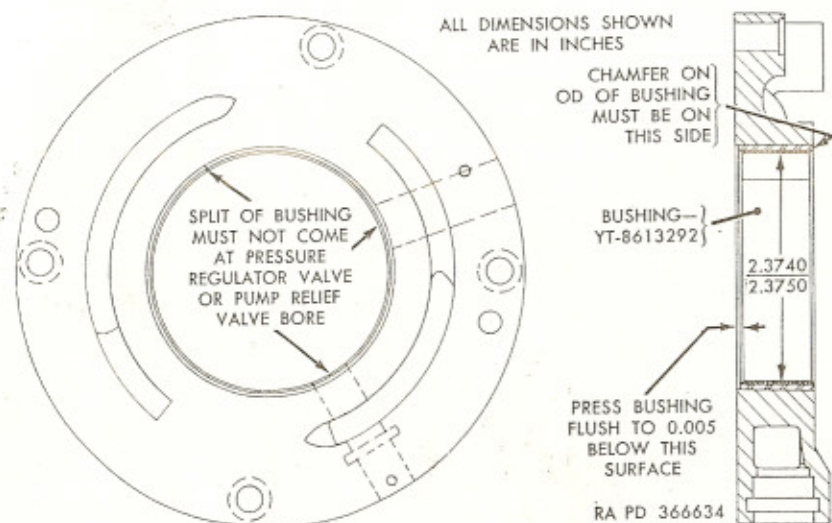

Figure 91. Sectional view of front oil pump body (301MG shown).
- (1) *Oil pump body bushing removal.* Use hack saw to split bushing; then drive or press bushing from body.
- (2) *Oil pump body bushing installation.* Position bushing in body with chamfered edge toward outside of body, also with split in bushing located as illustrated in figure 91. When bushing is properly positioned, press in until inner edge of bushing is within 0.005 inch of inner surface of body (fig. 91). Check inside diameter (par. 161) after installation.